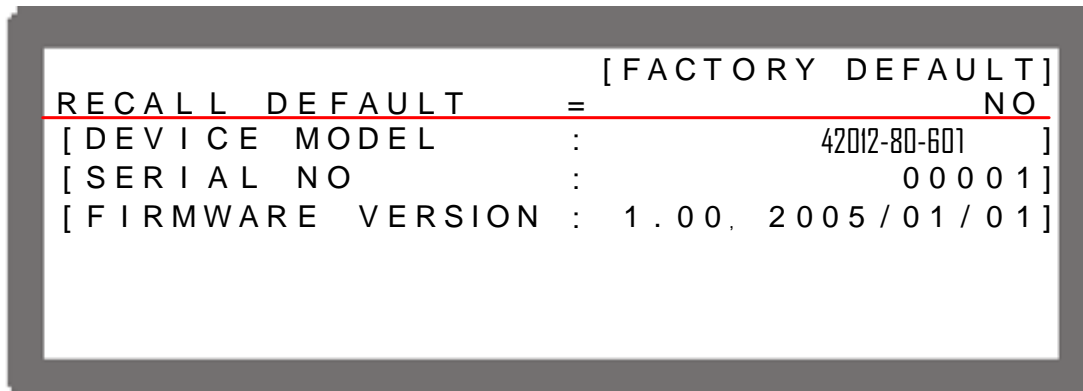

Figure 3-91
1. In Config Setup page, press “” to show Figure 3-91.